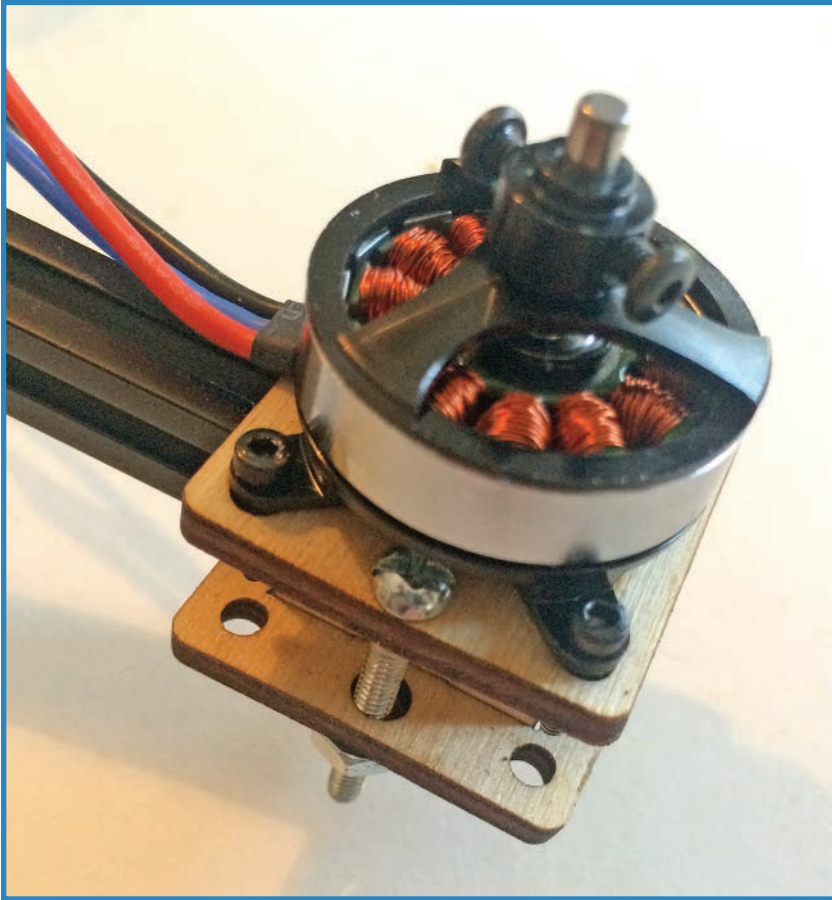

FIGURE 6.10 Attach the motors to the mounts.
3. Attach the motors to the mounts using M2 screws and nuts, shown in Figure 6.10. If you can't get locknuts, be sure to use a thread-locking solution to help secure those motors.